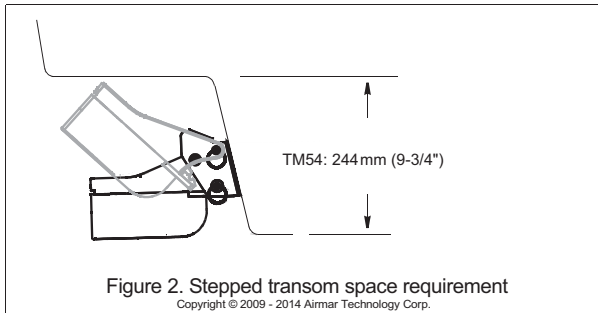

Figure 2. Stepped transom space requirement
- Stepped transom —Mount the transducer on the lowest step being sure there is enough space above the bracket for it to release and rotate the transducer upward (see Figure 2).